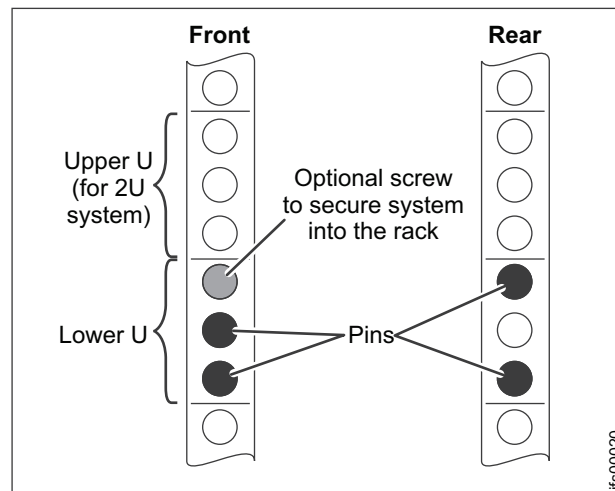

Figure 36. Locate a 2U space in the lower section of the rack.
2. Select an available 2U space in the rack to install the file modules. Refer to Figure 36.